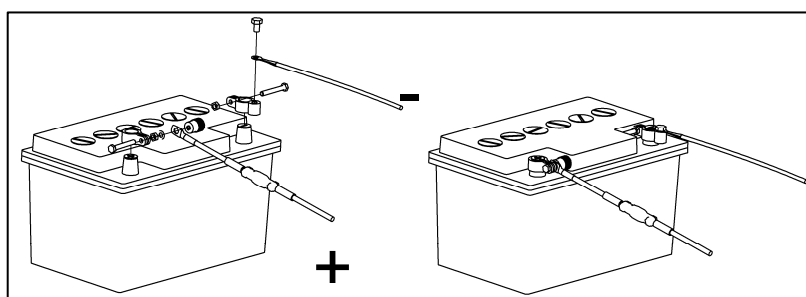

Fig. 45
- Route the "power unit cable," positive cable, and negative cable (25 mm2) for the power supply to the terminals provided for the battery and connect (see example in Fig. 45).